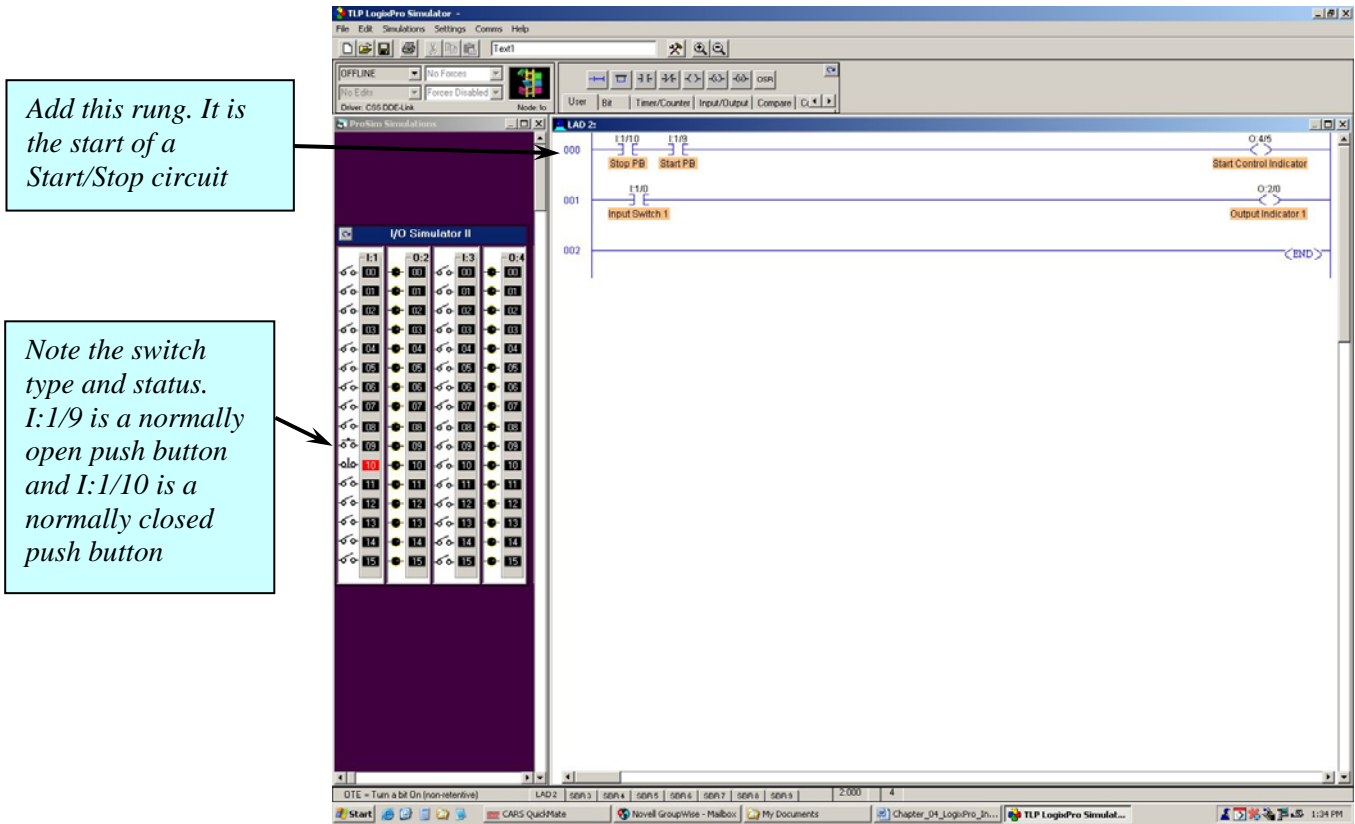

Figure 8
- ❑ Place two XIC and one OTE instruction on the rung. Assign the addresses: I:1/10, I:1/9 and O:4/5. The screen should look similar to Figure 8.